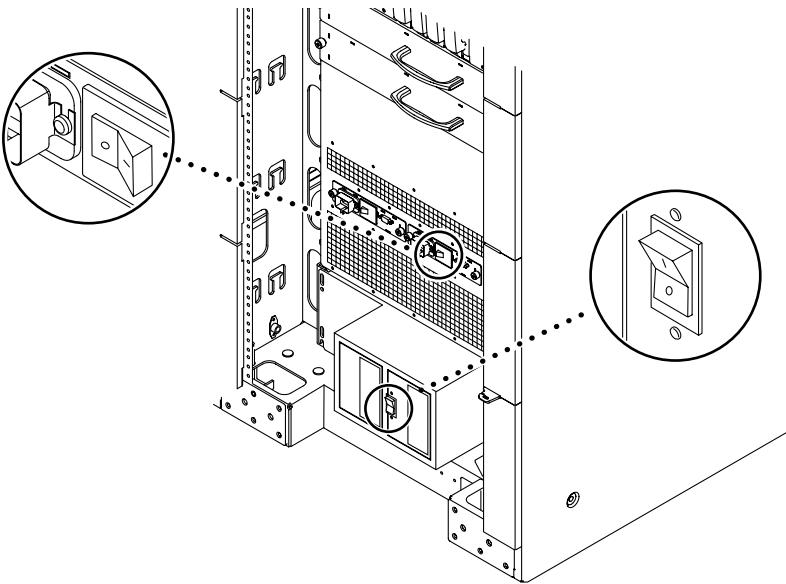

FIGURE 2-13 Sun Fire 6800 System Power Switch Locations
- b. Turn the AC power switches off on the RTUs at the front and rear of the system (FIGURE 2-13).
4. Power on the RTS power switches (FIGURE 2-13).
5. **Power on the AC input box power switches (FIGURE 2-13).**